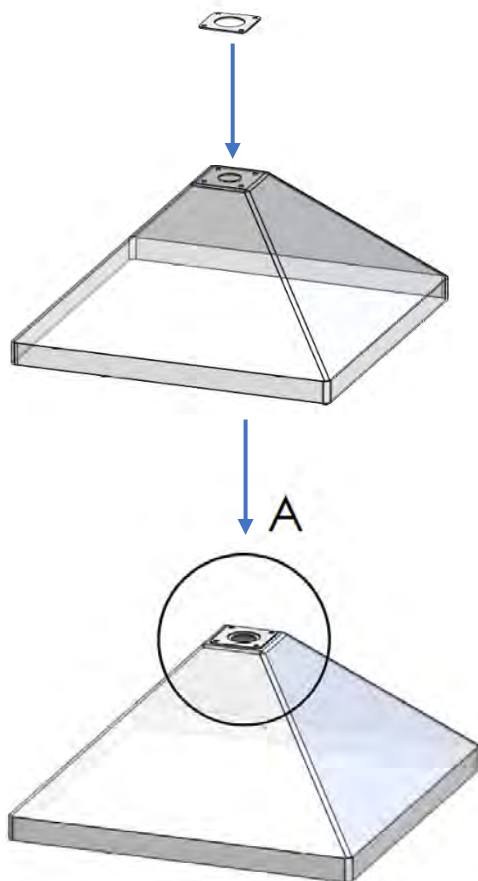

Figure 6
1. Position the supplied template on the upper end of the dome, making sure that it is placed in a central position with respect to the hole of the hood. Figures 6 and 7;